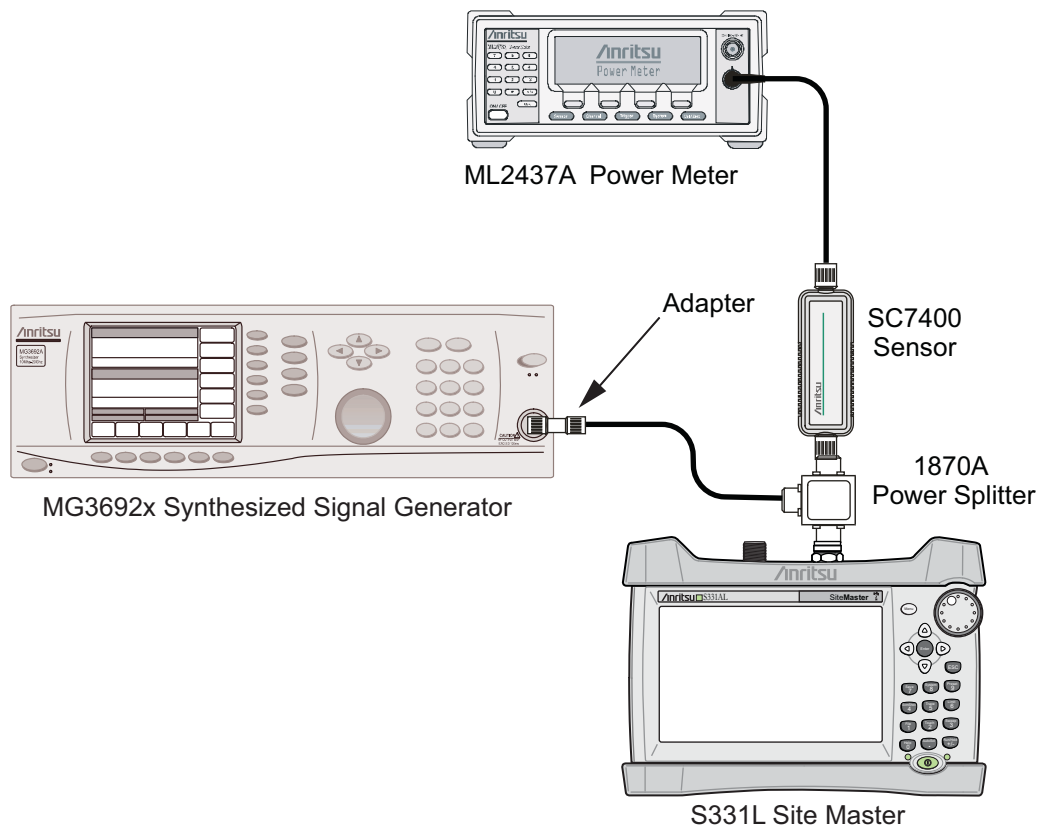

Figure 2-1. Power Meter Measurement Accuracy
5. Connect the MG3692B, SC7400 and S331L to the power splitter as shown in Figure 2-1.